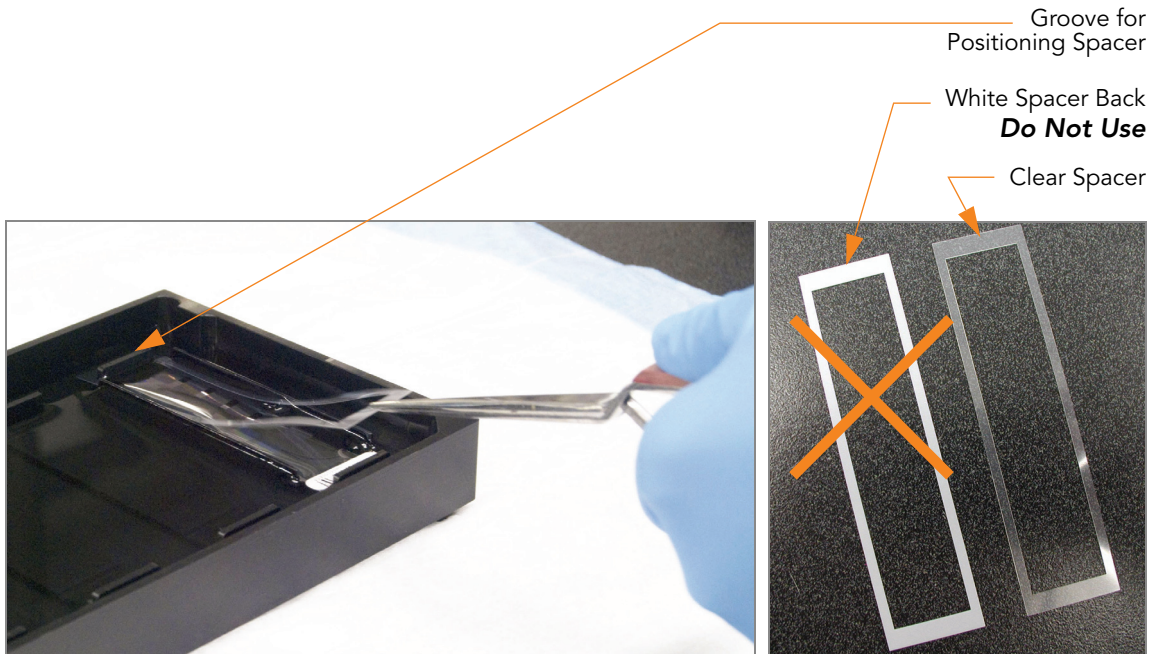

Figure 56 Placing Clear Plastic Spacer onto BeadChip
4. Place a clear spacer onto the top of each BeadChip (Figure 56). Use the Alignment Fixture grooves to guide the spacers into proper position.